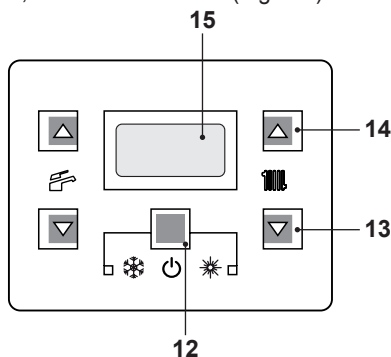
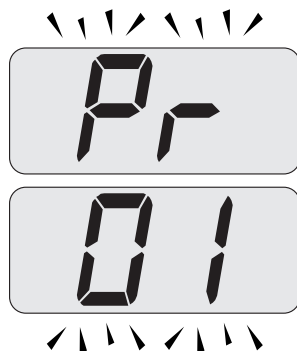

Fig. 8.7
Fig. 8.8
- Enter in "programming mode" by sequentially pressing 12 - 13 - 14 (Fig. 8.7) for 10 seconds at the same time until the letters **Pr** that alternate with code 01 are displayed on the LCD display, indicating that "parameter 01", has been activated (Fig. 8.8).
- Press keys 12 and 14 (Fig. 8.7) at the same time until the value of parameter 15 (Fig. 8.10) is displayed on the LCD display.
- By pressing key 12 (Fig. 8.7) confirmation of the inserted value is obtained.
- Press keys 12 and 13 (Fig. 8.7) at the same time to exit without changing the value (return to the parameters list Fig. 8.9).
- Press sequentially keys, 12 - 13 and then 14 (Fig. 8.7) and hold in for 10 seconds to exit the "programming mode".
ing system can be increased or reduced by $\pm 15^{\circ}\text{C}$ by acting on keys 13 (reduce) and 14 (increase) (Fig. 8.7).